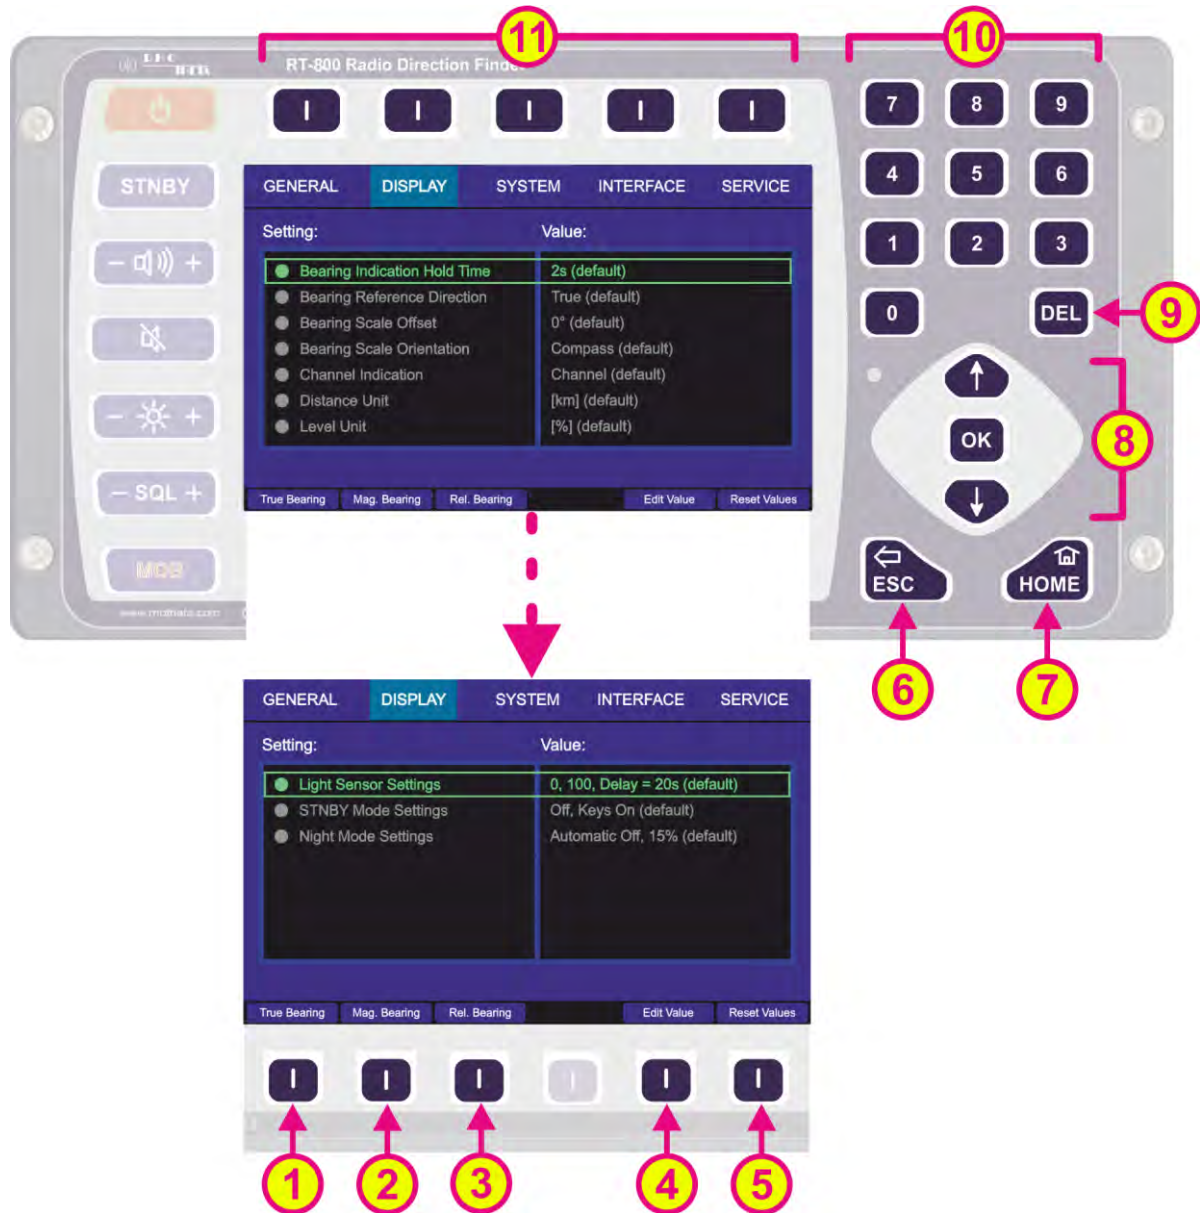
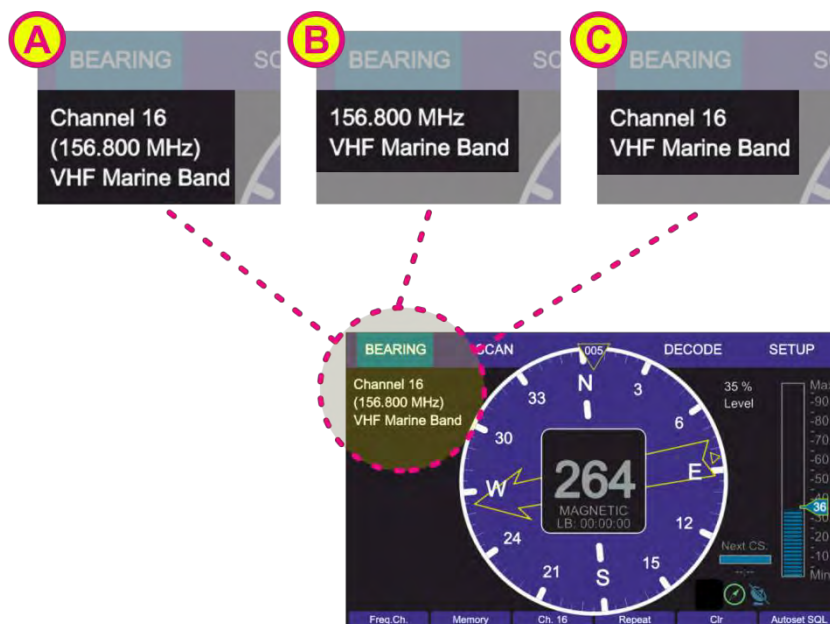
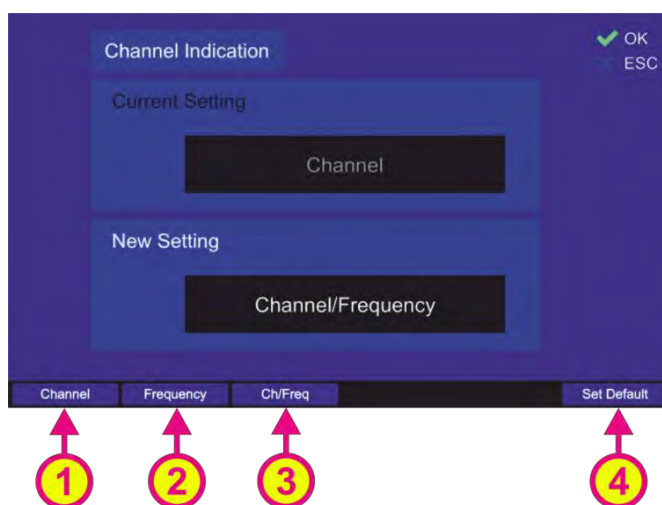

Fig. 80 Setup page. Display settings
Fig. 85 Types of the frequency/channel indication
Fig. 86 "Channel Indication" dialog
On the “Setup” page, the “Display” menu can be selected via the administrator access level only (by pressing the “Display” hotkey on the navigation line, s. Fig. 80, position 11).
After pressing the “Display” navigation key, following menu page opens (s. Fig. 80).
By pressing the “OK” button or the hotkey “Edit Value” (s. Fig. 80, positions 4 or 8), the following dialog is opened.
This reference point can be the **magnetic** north position, **true** north position and **relative** (reference is the direction to the vessels bow). For further explanation refer to chapter 6.1.2. Pressing “OK” or “Edit Value” (s. Fig. 80, positions 4 or 8) while the line “Bearing Reference Direction” is marked opens the corresponding dialog.
To set the bearing scale offset, press “OK” or “Edit Value” (s. Fig. 80, positions 4 or 8) while the line “Bearing Scale Offset” is marked. The corresponding dialog will open.
It is possible to configure the indication of frequency/channel, which is then shown on the “Bearing” page, in the left upper corner of the display (s. Fig. 85).
To change the type of frequency/channel indication, press “Edit Value” or “OK” (s. Fig. 80, positions 4 or 8) while the line “Channel Indication” is marked. The corresponding dialog will open (s. Fig. 86).
- “Channel” (s. Fig. 86, position 1): the corresponding appearance on the “Bearing” page will be as shown in Fig. 85, field C.
- “Frequency” (s. Fig. 86, position 2): the corresponding appearance on the “Bearing” page will be as shown in Fig. 85, field B.
- “Ch/Freq” (s. Fig. 86, position 3): the corresponding appearance on the “Bearing” page will be as shown in Fig. 85, field A.
To change the indication of the distance unit, press either the “OK” or “Edit value” (s. Fig. 80, positions 4 or 8) while the setting is marked by the green frame.
To change the currently chosen unit for the levels indication press either the button “OK” (s. Fig. 80, positions 4 or 8) or “Edit Value”, during the setting “Level Unit” is marked.
After pressing “OK” or “Edit Value” (s. Fig. 80, positions 4 or 8) while the menu point “Light Sensor Settings” is marked, the following dialog opens.